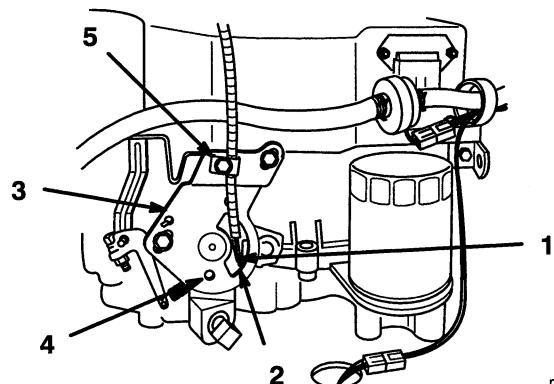

**Figure 4**
2. Secure each side with (2) 3/8 –16 x 1" (26mm) flange bolts and flange nuts (Fig. 4). Torque bolts to 25 ft. lbs. (34 N.m).
3. Route cables and wire harness inside of frame (Fig. 4). Secure wires and cable to handle with wire tie.